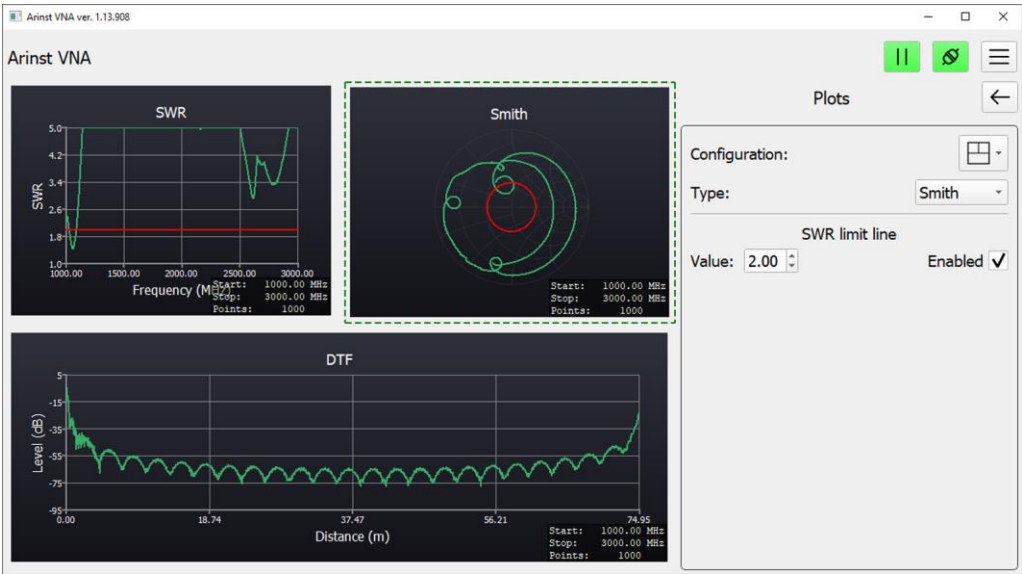

Figure 5.4 - Configuring the graphs displayed on the screen
*In our example in figure 5.4, the configuration for displaying three graphs on the screen is selected. At the same time, SWR graph, Smith diagram, and the DTF graph. The currently selected graph is assigned a display type – Smith chart. The option to display the SWR limit line with a value of 2 is enabled.*